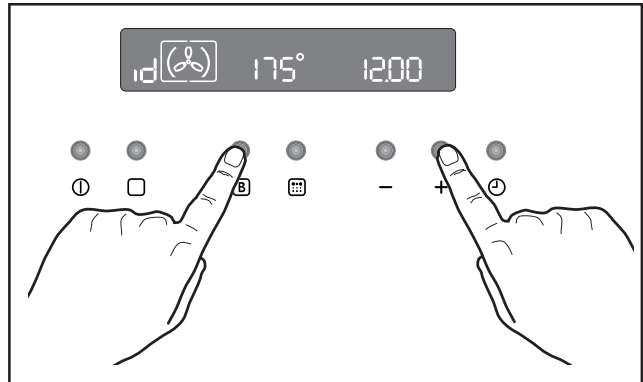

Fig. 17
- Press button **B** and “+” for approximately 2 seconds (Fig. 17). An acoustic alarm will sound for a short time.